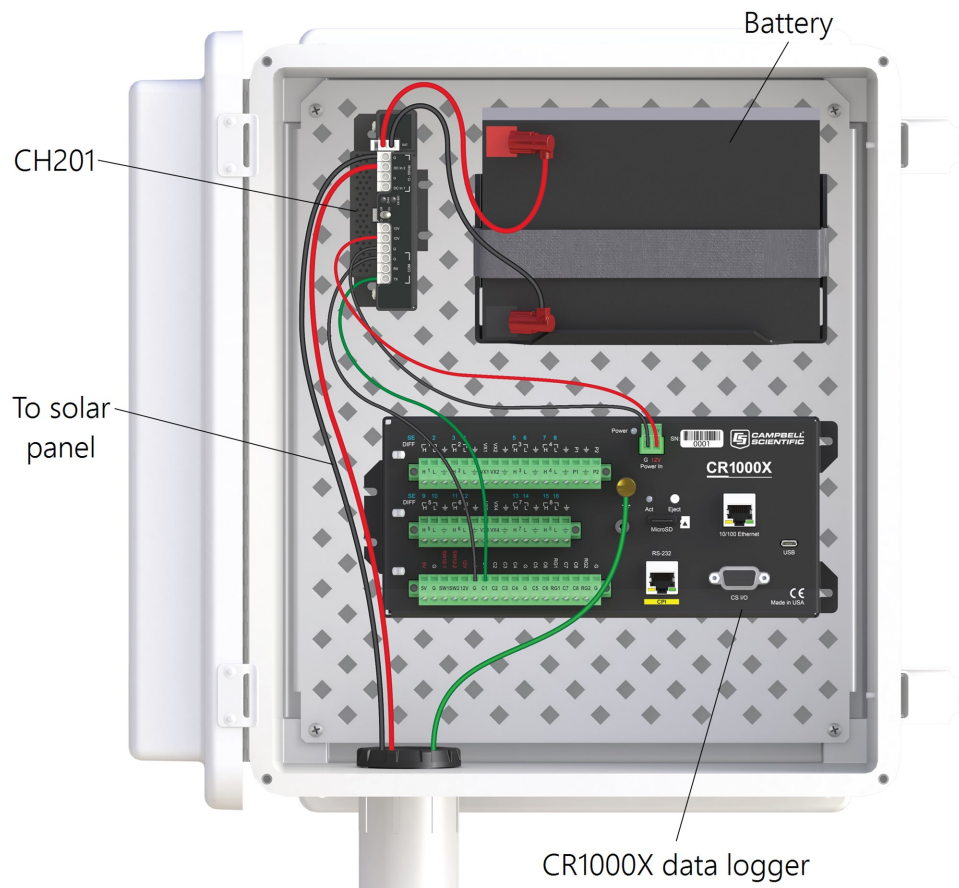

FIGURE 3-21. CH201 wired to solar panel, CR1000X, and battery
1. Using the supplied mounting hardware, install the CH201 on the mounting plate of an environmental enclosure (see FIGURE 3-21 (p. 22)). Verify the On/Off switch is in the 'Off' position.